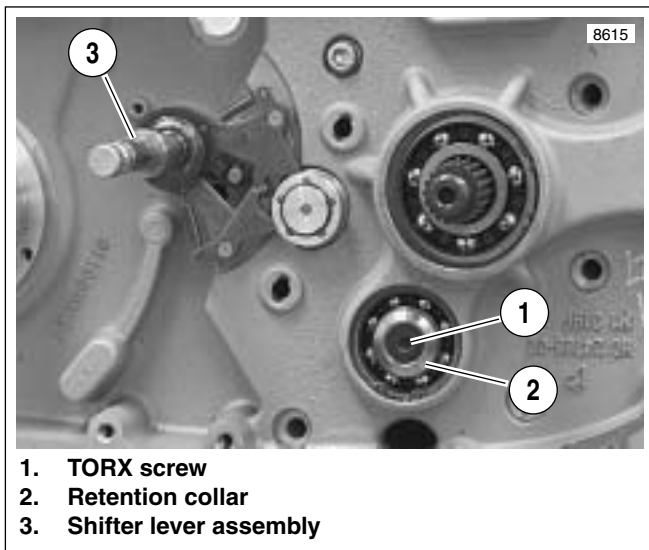

Figure 6-44. Countershaft Retainer
8. See Figure 6-44. Place transmission in 1st gear. Remove countershaft TORX screw (1) and retention collar (2).